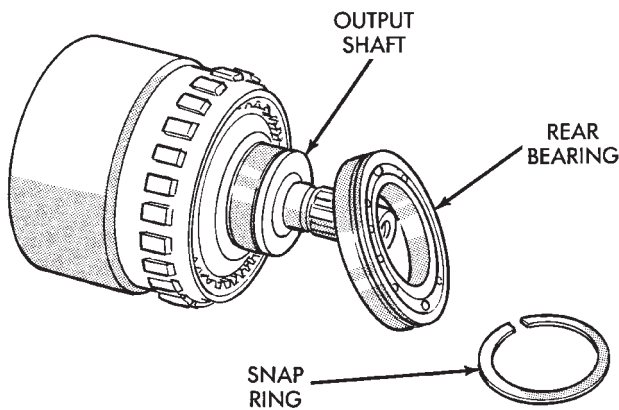

Fig. 18 Rear Bearing Removal
(8) Remove rear bearing from output shaft (Fig. 18).